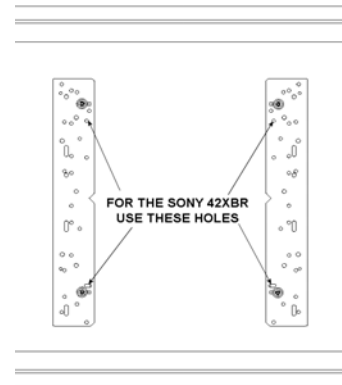
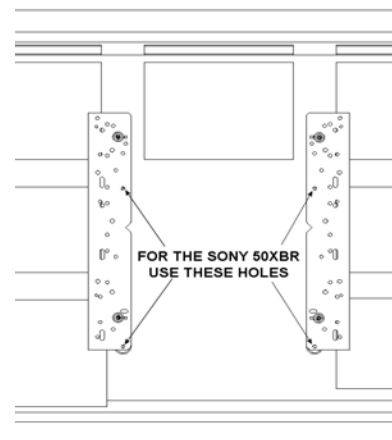

Figure 26. Bracket Attachment for 42" Display
Figure 27. Bracket Attachment for 50" Display
- Place the interface brackets over the Nylon spacers for either the 42" (see Figure 26) or 50" (see Figure 27) Large Flat Panel display.
- Using the hardware in parts bag F, secure the interface brackets to your Large Flat Panel display (see Figure 26 or Figure 27). Do not overtighten the mounting screws.